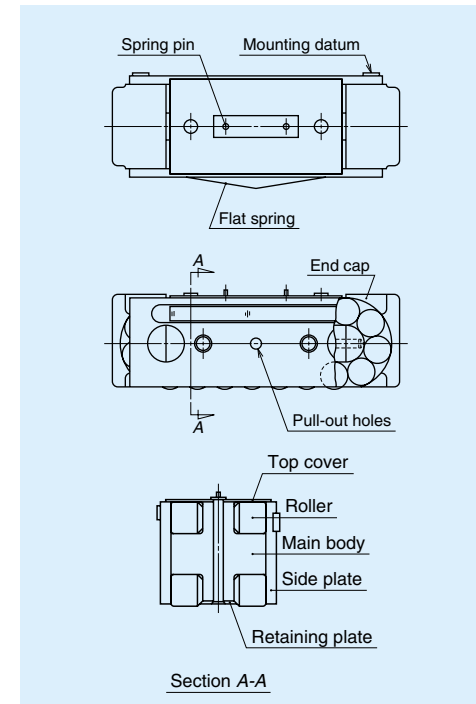

Fig. III-3-1 Roller pack
A roller pack comprises a main body which supports load from the guide way block via two rows of rollers; an end cap which change the direction of the recirculation of rollers at the end of the main body; a side plate which guides the rollers. (Fig. III-3-1). Roller pack is one of linear rolling guide of which rollers are allowed to re-circulate infinitely for free from restriction of running range (stroke).
- In case of heavy load, the roller pack could not be pulled out by the above method. Hook a tool to the pull-out hole (Fig. III-3.1) on the side plate of the roller pack, and pull out the roller pack.